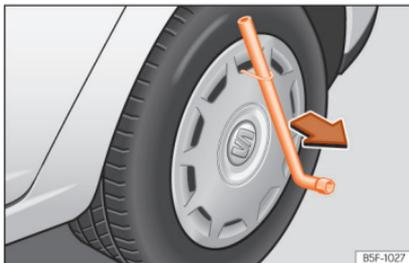

Fig. 40 Remove the wheel cover.
- Insert the box spanner through the hook, rest it on the tyre and remove the wheel trim » Fig. 40.